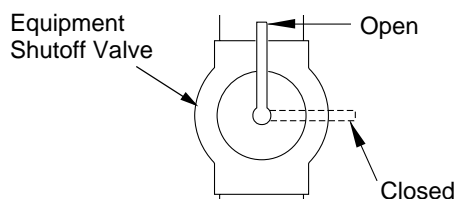

Figure 33 - Equipment Shutoff Valve
1. Close equipment shutoff valve (see Figure 33).
1. Open equipment shutoff valve (see Figure 33, page 19).